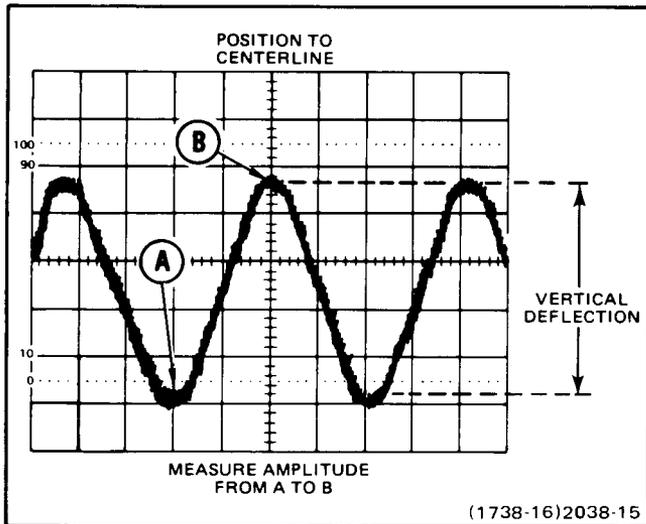

Figure 33. Peak-to-peak waveform measurement.
2. Ensure that the VOLTS/DIV VAR control is in the calibrated detent and vertically position the display so that the negative peak of the waveform coincides with one of the horizontal graticule lines (see Figure 33, point A).
3. Horizontally position the display so that one of the positive peaks coincides with the center vertical graticule line (see Figure 33, point B).
4. Measure the vertical deflection from peak to peak (see Figure 33, point A to point B).
EXAMPLE: The measured peak-to-peak vertical deflection is 4.6 divisions (see Figure 33) with a VOLTS/DIV switch setting of 0.5, using a 10X scale-factor-switching probe.